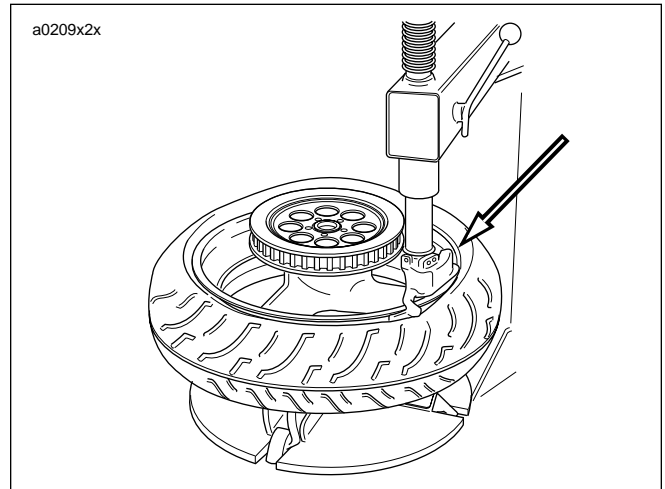

Figure 2-33. Starting Bead on Rim (Typical)
4. See Figure 2-33. Starting at the valve stem, start first bead into the rim well using a bead breaker machine. If no machine is available, work bead on as far as possible by hand. Use a tire tool to pry the remaining bead over rim flange.